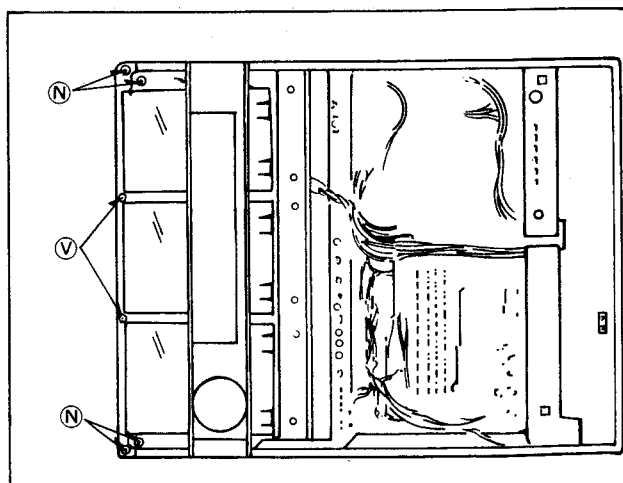
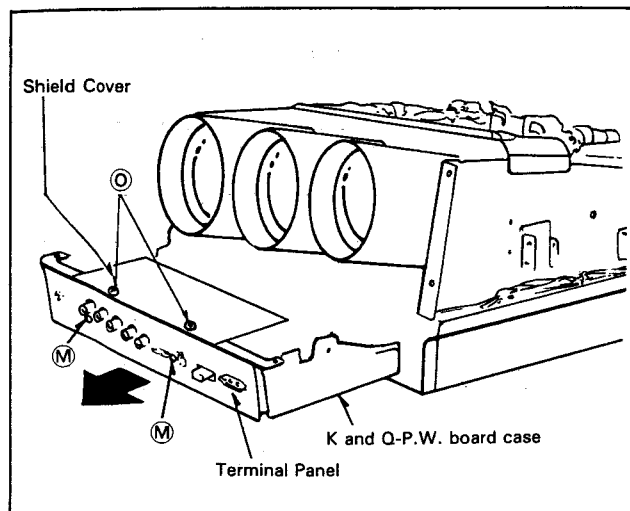

Fig. 11
Fig. 12
- 2) Remove 4 screws ⑭ as shown in Fig. 11.
- 3) Remove 2 screws (M), and remove the terminal panel as shown in Fig. 12.
- 4) Remove 2 screws (O), and remove the shield cover as shown in Fig. 12.
- 5) Remove 2 screws (V), and carefully slide the K and Q-P.W. board case forward as indicated by the arrow in Fig. 11 and Fig. 12.